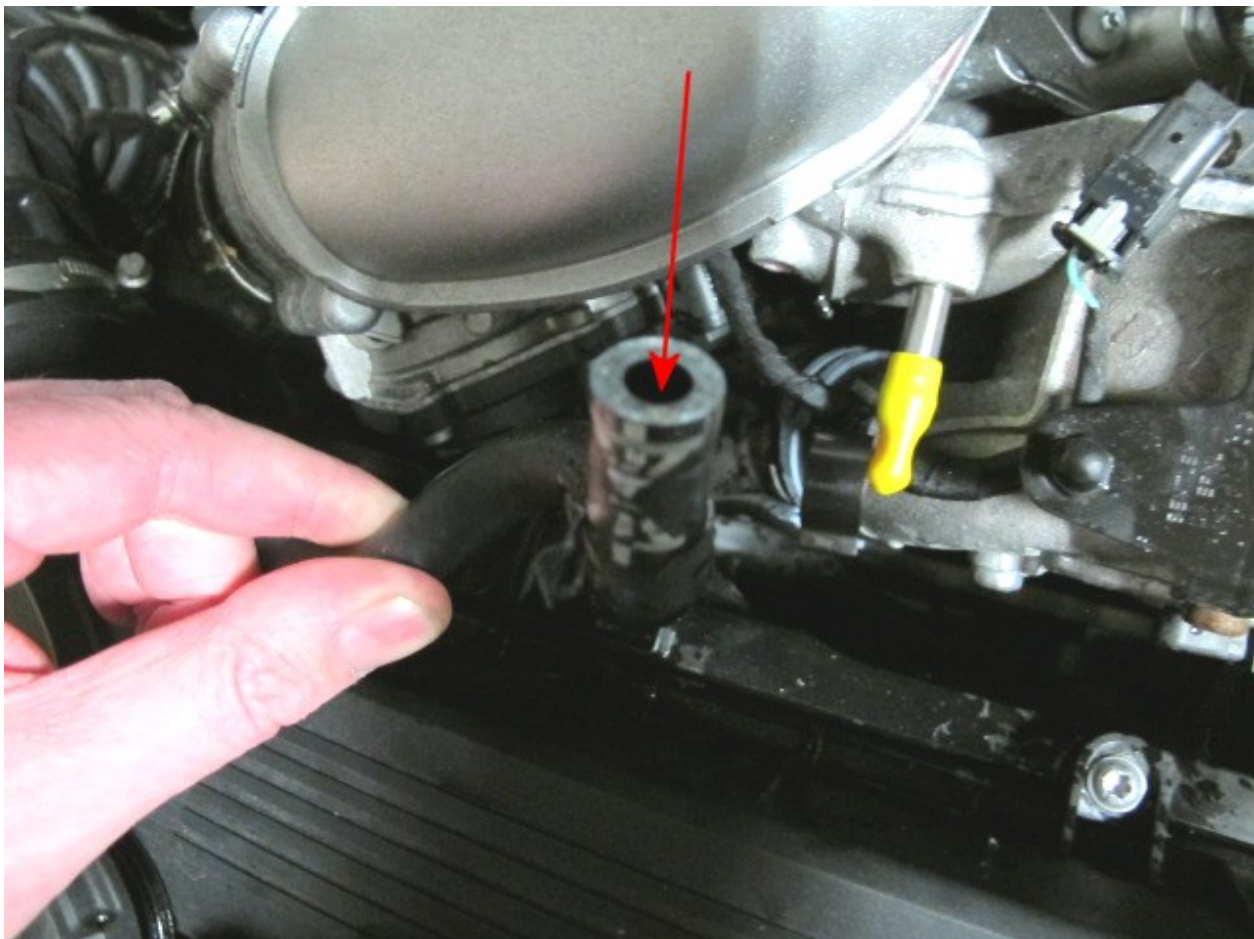

Figure 8
5) Referring to Figure 8 - Apply light air pressure into hose (Arrow)